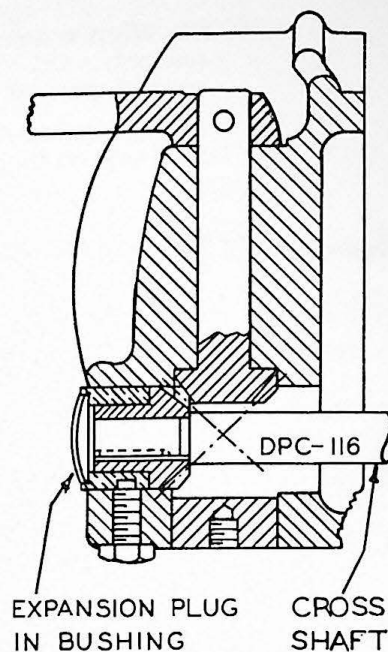

FIGURE 28
1. Drill and tap hole in center of $1\frac{1}{4}$ " expansion plug in bush, (See Figure 28) and remove plug.